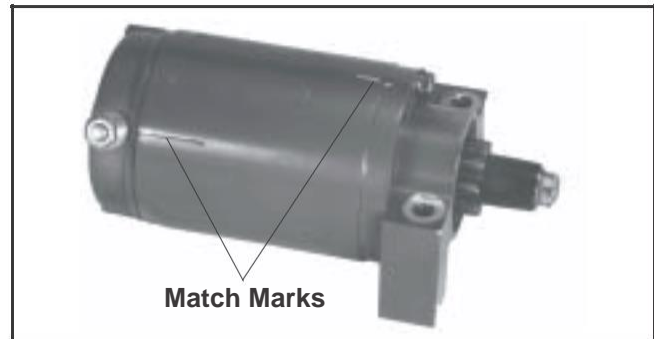

Figure 8-17. Starter Assembly Match Marks.
2. Locate the small raised line on the edge of the drive end cap. On starters with Style "A" commutator end caps, it will be aligned with a premarked line on the starter frame. The frame is not premarked on starters with Style "B" end caps. Place a piece of masking tape on the frame and mark a line on the tape in line with the raised line on the end cap. See Figure 8-17.
3. Install the drive end cap over the drive shaft. Make sure the match marks on the end cap and starter frame are aligned. See Figure 8-17.